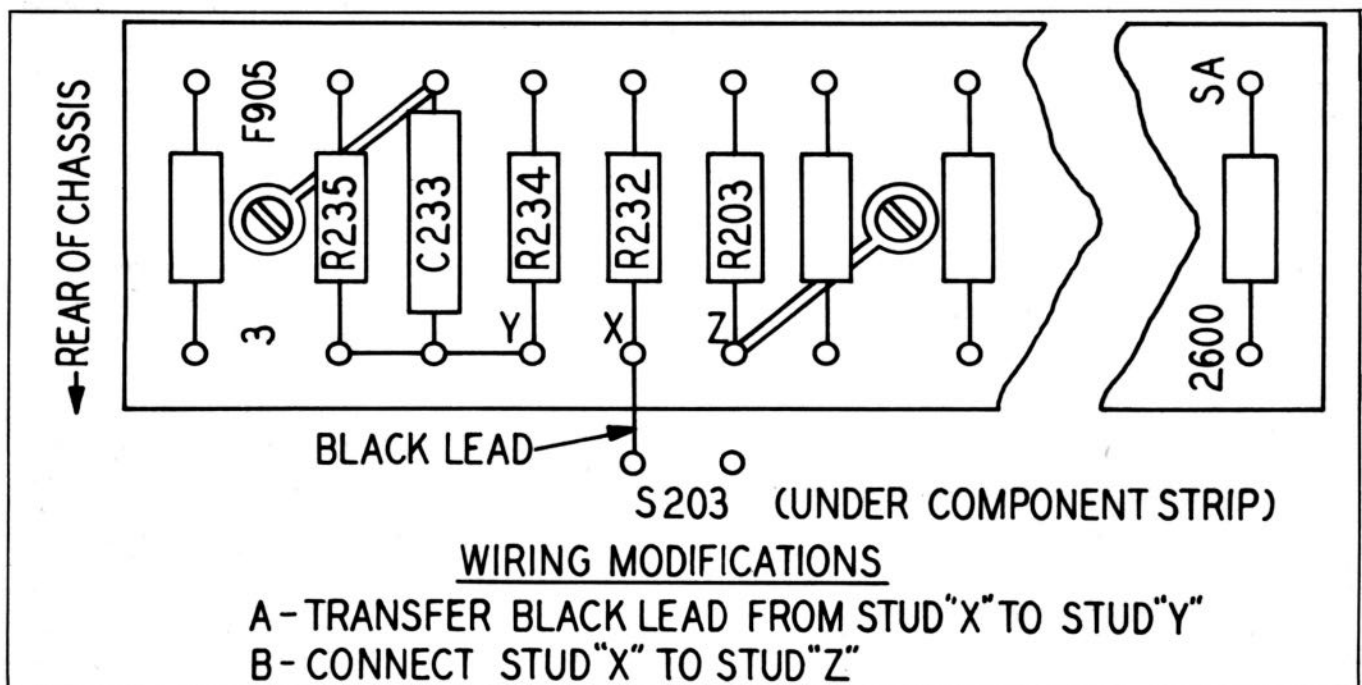

Figure 4-8. Modification of Diode Switch S203 (See paragraph 4-16)
- Make wiring changes as indicated in figure 4-8 of this section.